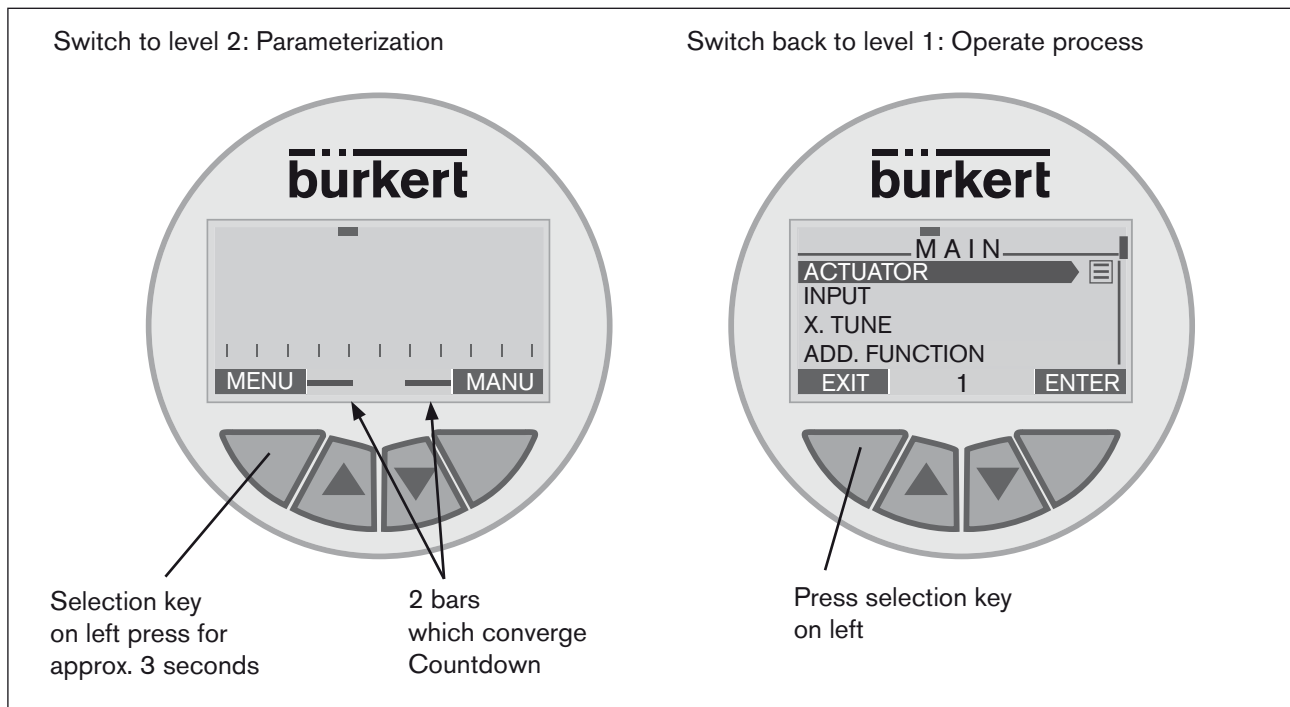

Fig. 12: witch operating level
- To switch from level 1 (Operate process) to level 2 (Parameterise), press the left selection key (MENU) for approx. 3 seconds. During these 3 seconds (Countdown) 2 bars converge (see Fig. 12:).